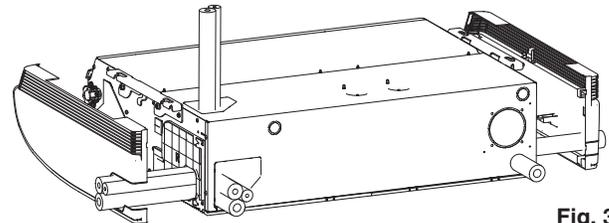

Fig. 3-18
- The positions of the refrigerant tubing connections are shown in the figure below. (The tubing can be routed in 3 directions.) (Fig. 3-18)
* If the drain hose is routed through the left side, refer to Fig. 3-18, and follow the procedure above to install the hose.